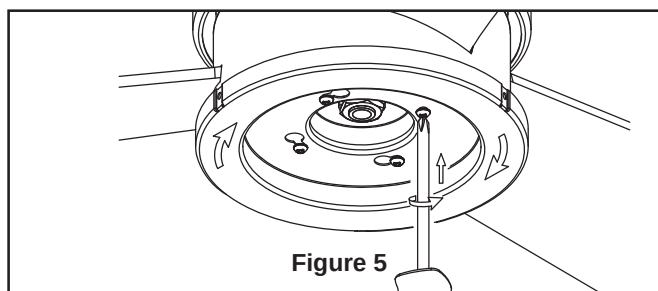

Figure 5
- ☐ 5. Route wires through Motor Coupling Cover, Canopy Screw Cover and Ceiling Canopy. (Figure 5)
- ☐ 5. Attach the switch cup support plate to the support flange by rotating plate and properly positioning screws in key slots. Install fourth screw in remaining hole. Fully tighten all four screws. (Figure 5)